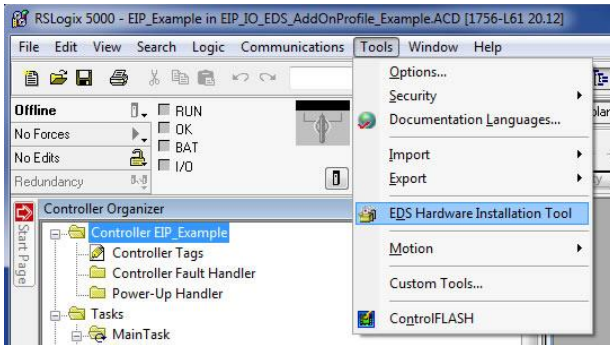

Figure 27: EDS Hardware Installation Tool Menu
- 1) Register the interface card's EDS file. In the menu bar, navigate to Tools...EDS Hardware Installation Tool. Refer to Figure 27.